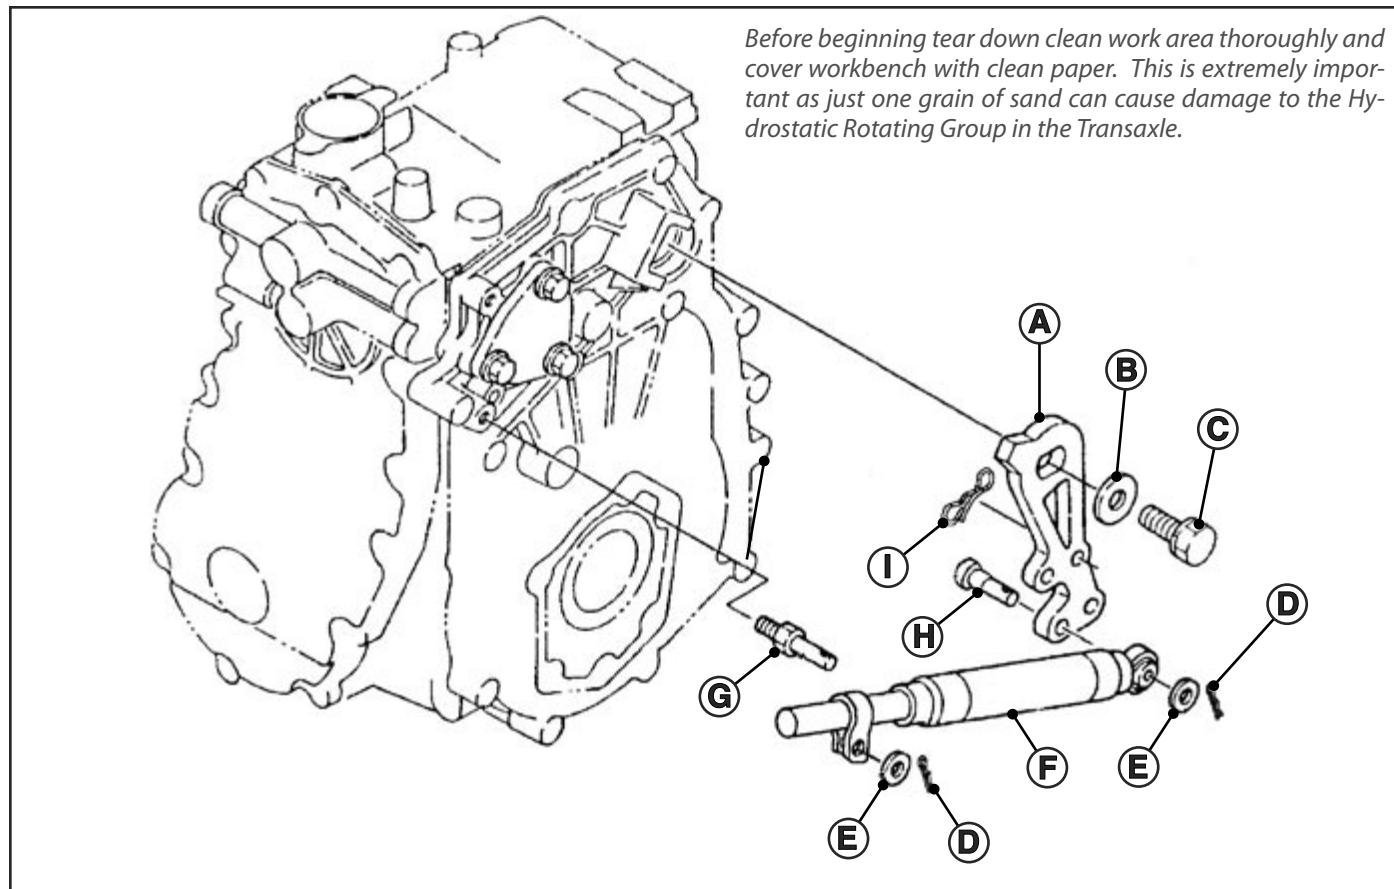

Fig. 1, Control Arm and Damper Disassembly
4. Remove cap screw (C) and washer (B) from control arm. (Fig. 1)
5. Remove control arm (A). (Fig. 1)
6. Install control arm the same as removal, and install washer and cap screw. Tighten cap screw (C) to 73 N·m (54 lb-ft).
1. Remove spring locking pins (D) and washers (E) from both sides of damper (F). (Fig. 1)
2. Slide damper off of pivot stud (G) and clevis pin (H). Inspect and, if defective, replace damper as an assembly.
3. To remove control arm (A), remove spring locking pin (I) and disconnect foot control rod (D) from control arm.